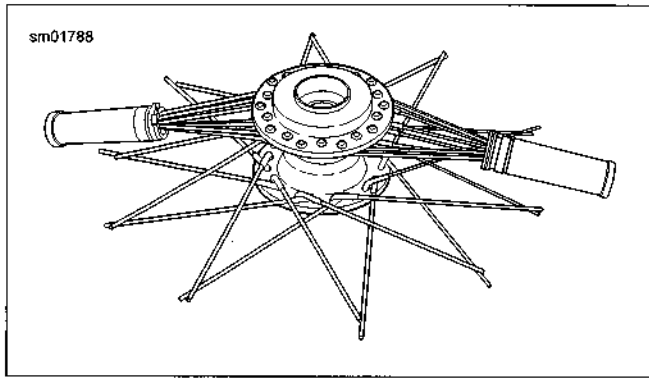

Figure 2-37. Bundling Top Spokes
7. See Figure 2-37. Group all spokes on the upper flange into two bundles of ten. Secure each group with throttle grips.